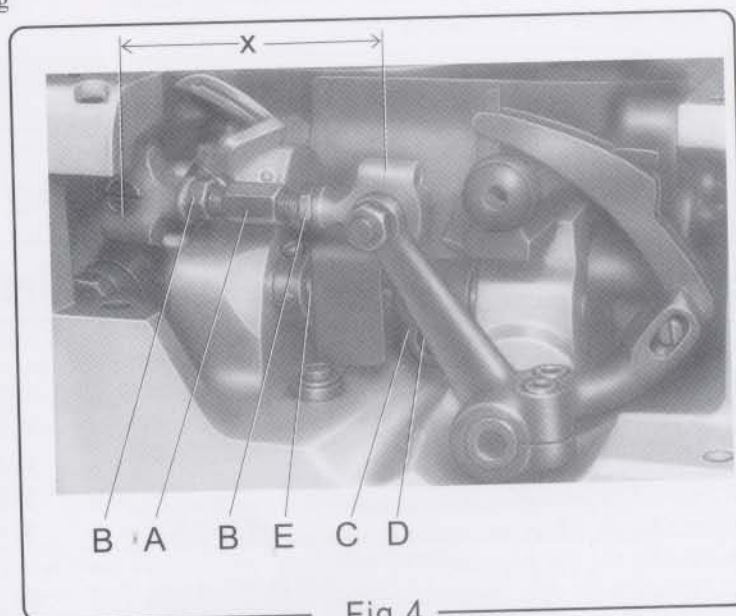
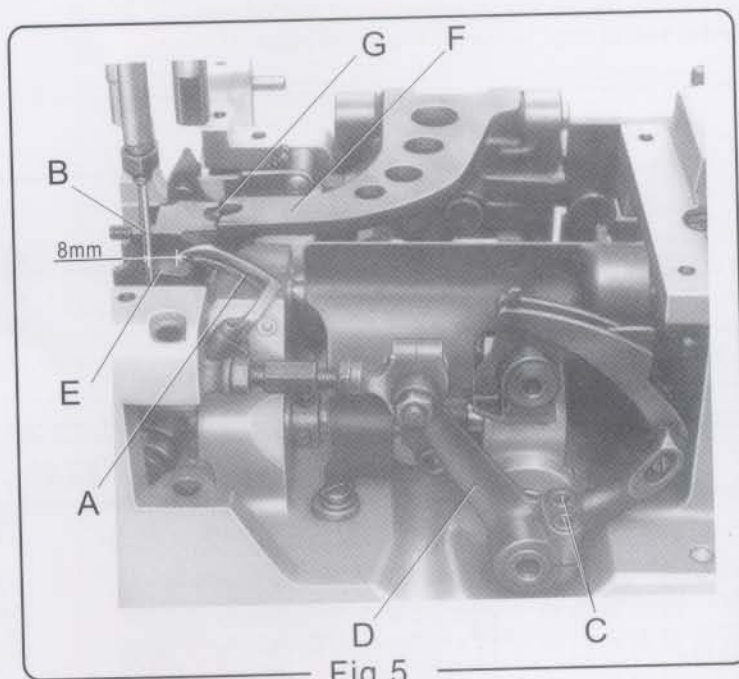
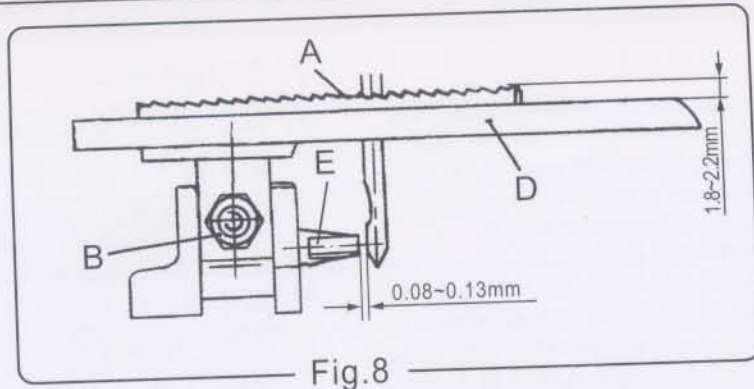

Fig.4
Fig.5
Fig.8
(1) Looper
- a. First set the looper connecting rod A(Fig.4), so the distance X (Fig.4) between the centre lines of the two ball joints is 69.8mm. For adjustment, loosen the two nuts B and turn connecting rod A forward or backward as required to obtain specified dimension. Retighten nuts B.
- b. Rotate the machine pulley clockwise by hand, so that the needle bar moves to the lowest point, at the same time the looper moves back to its farthest position to the right. The distance from the point of the looper A (Fig.5) to the centreline of the needle is 8mm. For adjustment, loosen two screws C in the looper drive lever, rotate looper drive lever D left or right as required to obtain specified dimension and retighten screws C.
- c. Rotate the machine pulley so that the looper A(Fig.5) moves from right to left. The looper point should pass close as possible as the back of the needle without contacting, about 0.08~0.13mm (Fig.6) clearance. For adjustment, loosen screw D(Fig.4)in the looper eccentric fork C and turn rocker shaft E on the looper rocker with the looper forward or backward as required. Retighten screw D.
(2) Needle Bar
The needle guard E(Fig.8) will protect the needle and prevent it from bending or breaking when the needle goes down. The clearance between the needle and the needle guard is 0.08mm~0.13mm(Fig.8).For adjustment, rotating pulley in the direction of operating, so that the needle guard moves against the needle. Loosen set screw G on feed dog holder (Fig.5), move the needle guard accordingly. Retighten screw G.
The height of the feed dog A(Fig.8)is determined by the quality and the thickness of the sewing materials. For closing thin material such as bags made of cloth and plastic, teeth surface should project 1.8mm above the throat plate D top surface, and for sacks about 2.2mm above the throat plate. For setting, move the feed dog to the highest position, loosen nut B and adjust feed dog by raising or lowering it. Retighten nut B.